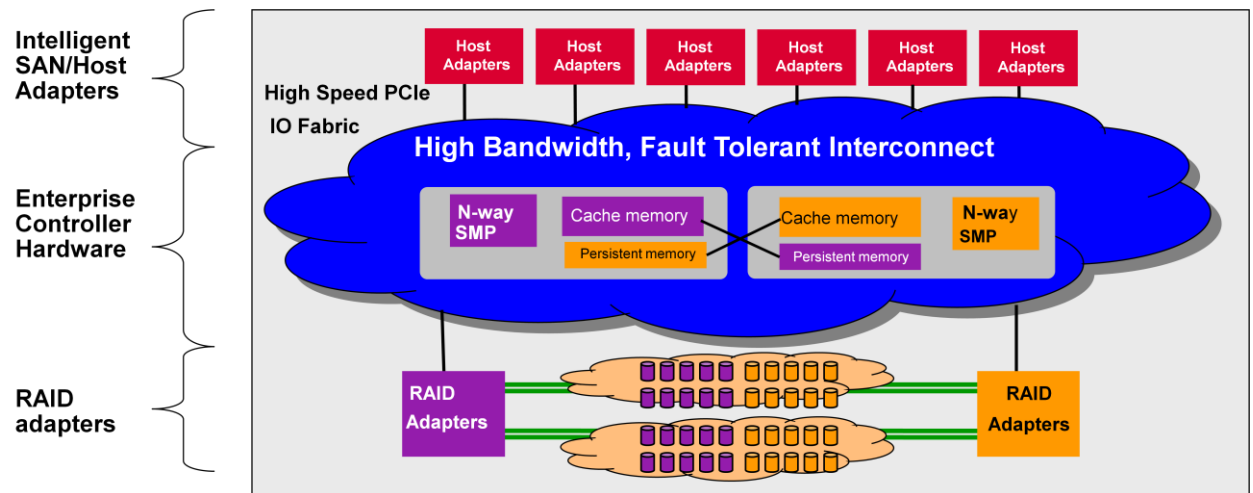

Figure 1. DS8870 High-end Storage System Block Diagram. Source IBM
**IBM's System Storage DS8000** was announced in October 2004. This disk system uses a storage architecture based on standard components such as the IBM POWER processors also used in IBM Power Systems (formerly pSeries) (see Fig.1). The DS8000 was a follow-on to the Enterprise Storage Server (ESS) – codenamed "Shark", which was announced in July 1999. The DS8000 series uses three levels of processing: PowerPC and application-specific integrated circuits (ASICs) in the front and the backend adapters